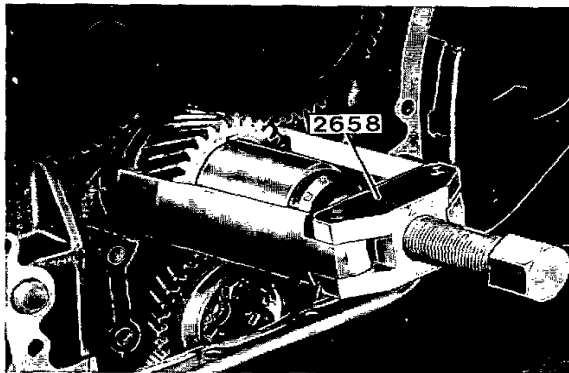

Fig. 78. Removing the crankshaft gear
14. Remove the crankshaft gear (5) using the puller 2658 (fig. 78).